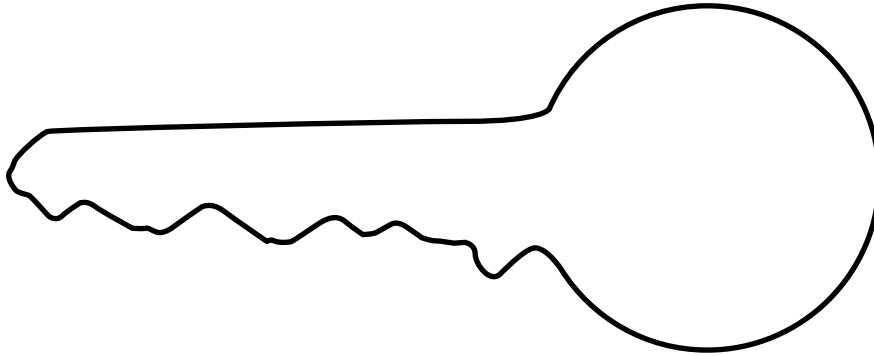

Fig. 1
- 1 Fig. 1 shows a large plastic key to be used as a shop sign.